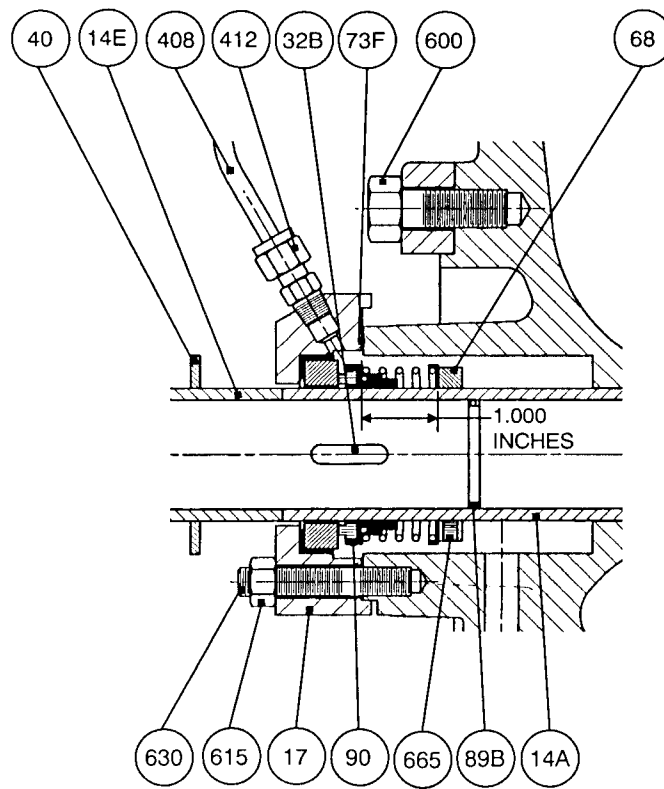

Figure 6A. Mechanical Seal, WKM-50 and WKM-65 Standard Design
9. To determine placement of seal collar (68) on shaft sleeve (14A), for installation of mechanical seal (90) rotating element, refer to figure 6A or 6B and follow the following procedure:
- a. Insert shaft (6) through inboard end of suction casing (203). Standard design, secure bearing housing (99) to suction casing (203) with bolts (600). High temperature design, secure bearing housing (99) to suction casing (203) with nuts (618) on studs (632).
- b. Scribe a mark on shaft sleeve (14A) corresponding to outer edge of stuffing box in suction casing (203).
- c. Remove bolts (600) or nuts (618) as applicable. Remove shaft assembly from suction casing (203). Remove shaft sleeve (14A).